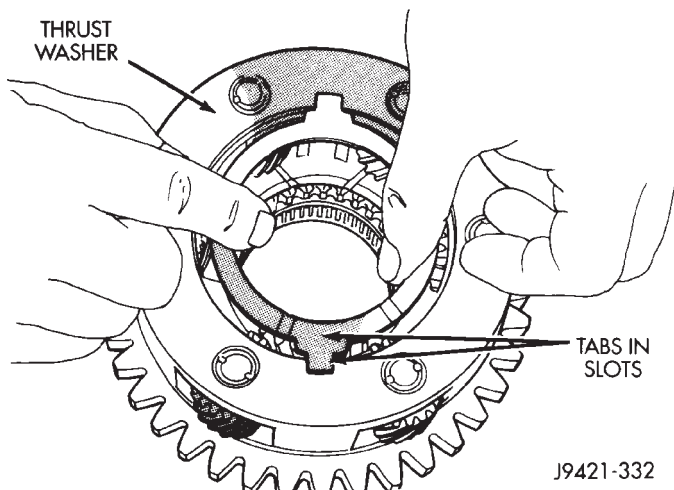

Fig. 60 Thrust Washer Installation
(1) Lubricate planetary components with transmission fluid.
(2) Install first thrust washer in carrier (Fig. 60). Lube washer with petroleum jelly before installation.